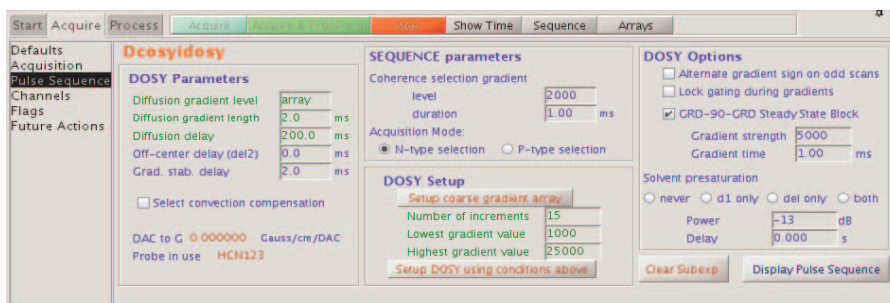

Figure 53. Absolute Value 3D-DOSY Pulse Sequence Panel
4. Click on the "Setup DOSY using conditions above" button in the Pulse Sequence panel (Figure 53)